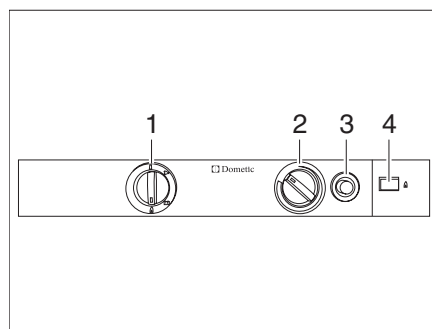

Fig. 268 Operating controls for the refrigerator (Dometic 8 series)
- Set the energy selector switch (Fig. 268,1) to "🔥".
- Press the control knob (Fig. 268,2), turn it to the highest level and hold it down. Wait until gas gets into the burner.
- Press the gas ignition button (Fig. 268,3) and keep it pressed. Ignition will take place automatically.
- Keep gas ignition button (Fig. 268,3) pressed down until the flame indicator (Fig. 268,4) becomes green and then release it.
- Keep the control knob (Fig. 268,2) pressed for another 10 to 15 seconds, then release it.
- Set the energy selector switch (Fig. 268,1) to "⏏".
- Use the control knob (Fig. 268,2) to adjust the refrigerating temperature.